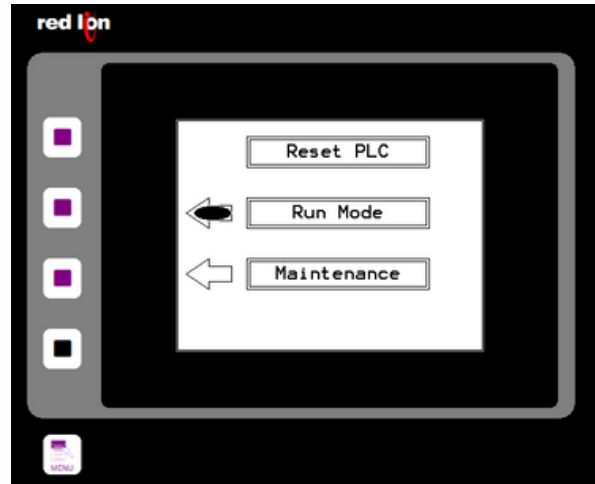

Figure 5.2. Confirmation of run mode selection on the deck service box.
- Select run mode on the deck service box (Figure 5.2). Both the capsule and the traveller will slowly return to the HOME position. Important, see section 7.2.3 run mode for more details about using run mode.